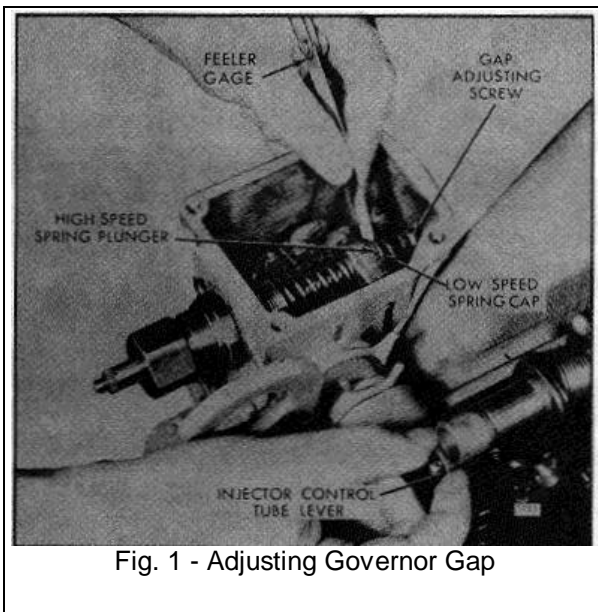

Fig. 1 - Adjusting Governor Gap
7. Check the gap between the low speed spring cap and the high speed spring plunger with a .0015 feeler gage. If the gap setting is incorrect, reset the gap adjusting screw (Fig. 1). If the setting is correct, the .0015" movement can be seen by placing a few drops of oil into the governor gap and pressing a screw driver against the gap adjusting screw. Movement of the cap toward the plunger will force the oil from the gap in the form of a small bead.